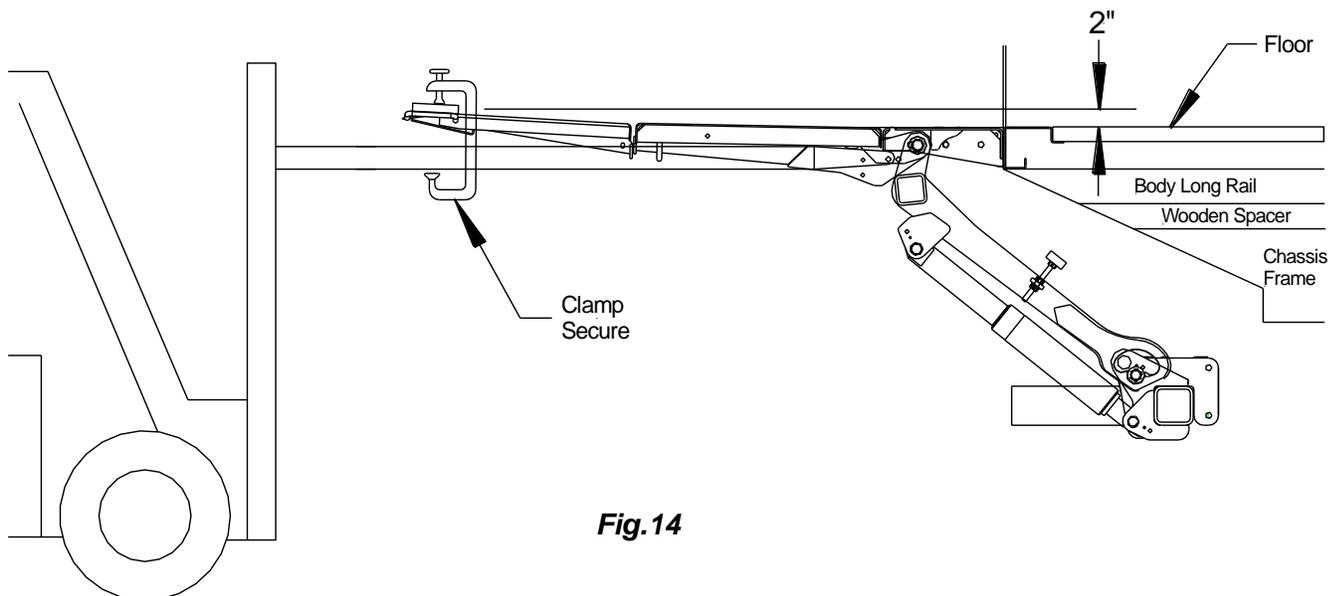
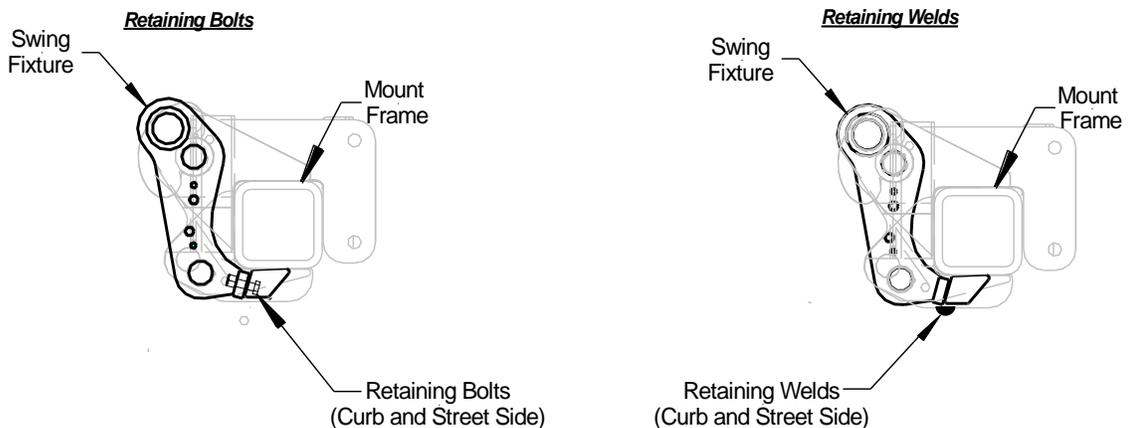

Fig.14
Fig.15
1. Hoist Platform: Unfold platform manually and clamp forklift forks, overhead crane or equivalent to platform. Make sure the platform is secured. Always maintain the mount tube centered to the vehicles body. Make sure the tip of the platform is pitched up 2" and the platform is centered to the bed extension, **Fig 14**. **Important: Verify the retaining bolts or welds, on both sides, are in place securing the mount frame and swing fixture prior to beginning installation, Fig 15.**